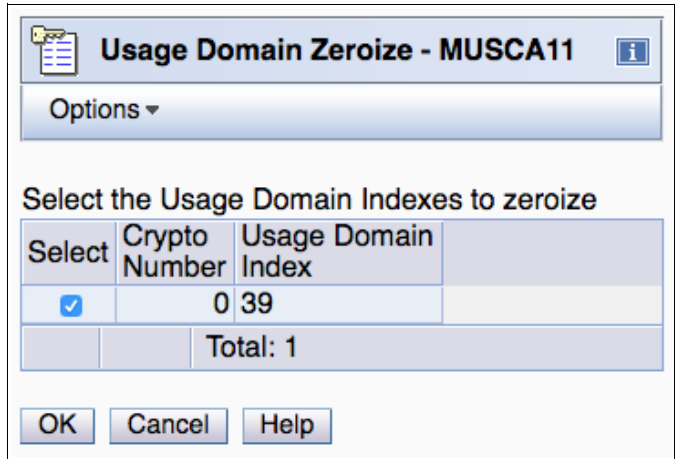

Figure 10-9 SE: Change LPAR Cryptographic Controls Zeroize
- When you remove the only definition of the cryptographic lists, the Usage Domain Zeroize window opens (see Figure 10-9).